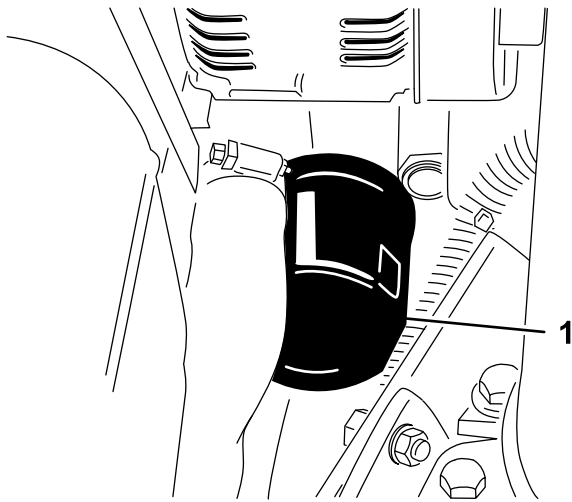

**Figure 61**
1. Remove either drain plug (Figure 61) and let the oil flow into a drain pan; when the oil stops flowing, install the drain plug.